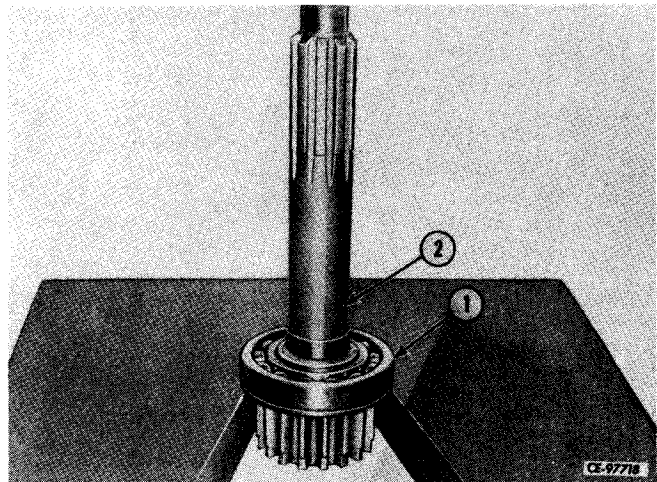

Figure 4-24
Using a suitable puller remove main drive gear and bearing from the reverse housing. Using a suitable press remove bearing (1, Fig. 4-24) and oil fling from main drive gear (2).